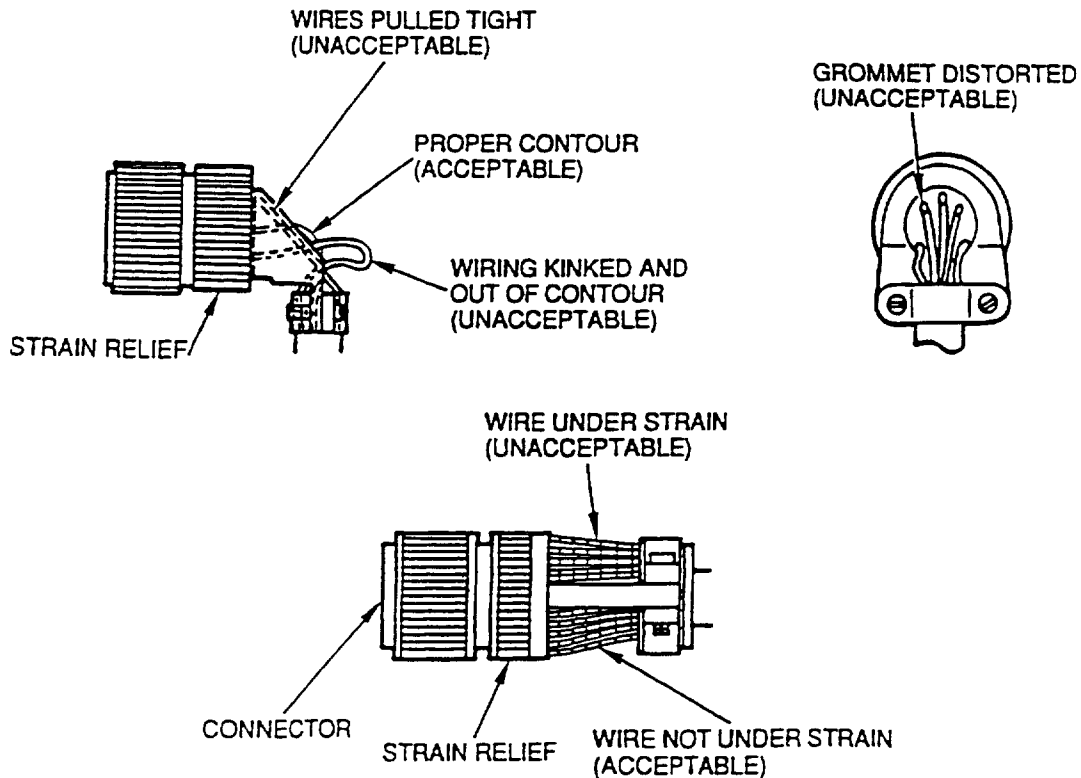

Figure 28. Proper Dress of Wire Into Connector
c. Restore the proper dress of wire at the connector. The wire should not elongate the grommet holes, be pulled tightly, or be kinked (Figure 28).